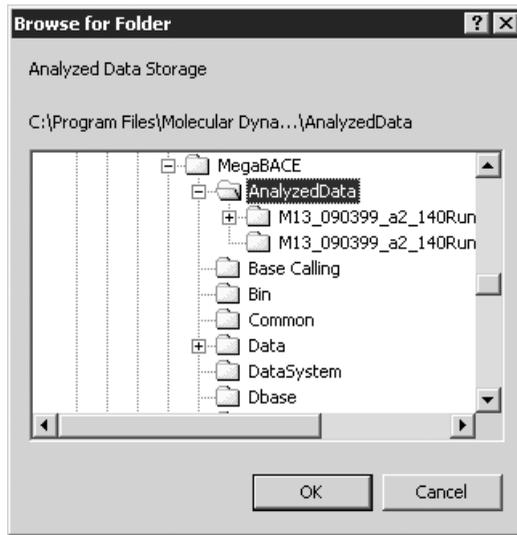

Figure 1. The Browse for Folder window for changing the storage location of the base-called data files.
2. Choose **Analyzed Data Storage** from the Options menu. The Browse for Folder window appears (figure 1).